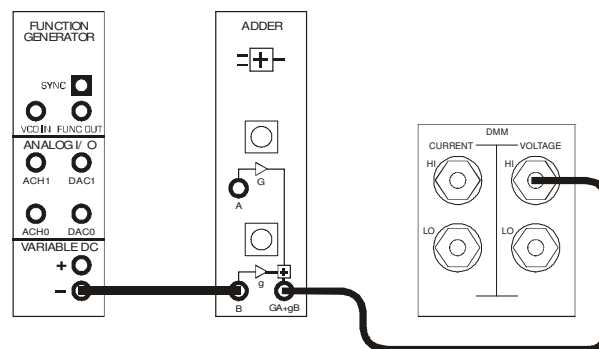

Figure 3
17. Connect the set-up shown in Figure 3 below.